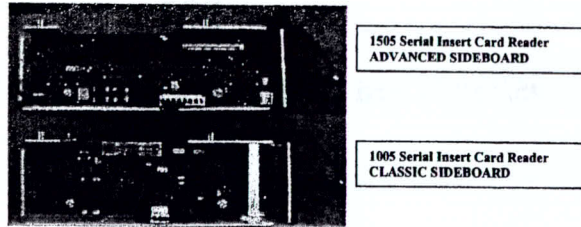

Figure 1
7. Based on the model of the Insert Card Reader see Figure 1 place the card reader into the open slot in the 5400 coin-op housing.
Refer to Figure 1 for a breakdown of which side board being used.